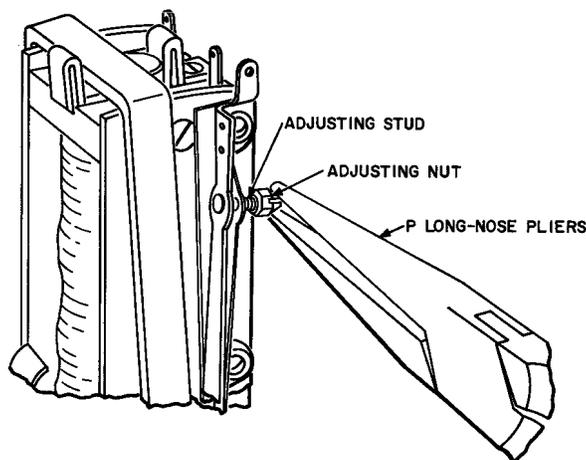

Fig. 6 — Method of Tightening Locknut
**3.04 Adjusting Nut Tightness — 85F-Type Relay Only** (Reqt 2.04): If the adjusting nut is too loose on the adjusting stud, turn the nut in a counterclockwise direction with the 403A or R-2262 wrench until the slotted portion extends beyond the stud. Then force the slotted portions of the nut closer together using the P long-nose pliers as shown in Fig. 6.